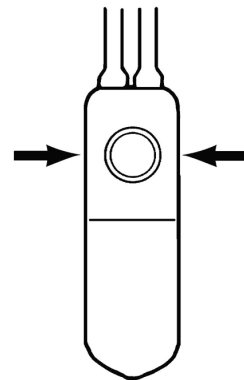

Figure 4-42. Side Squeeze Method
1. Squeeze sides of control pump adjacent to deactivation button to allow fluid to fill the pump bulb. **(Figure 4-42)**